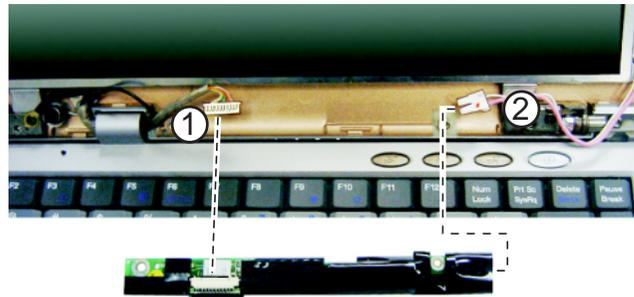

figure 2-23
4. Lift the inverter board and disconnect the inverter cable and the LCD to inverter cable (figure 2-23).